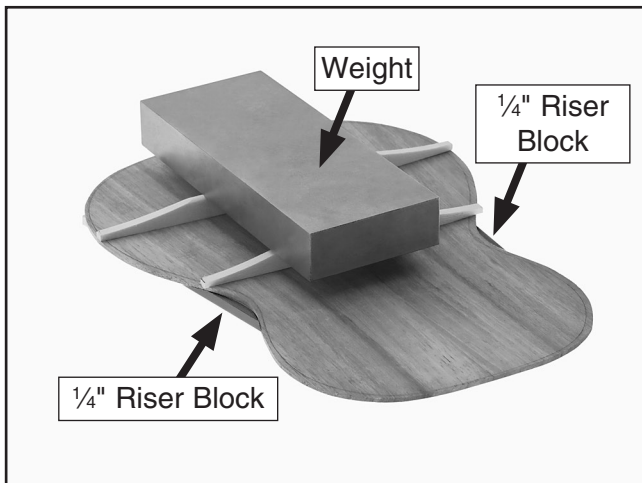

Figure 13. Weight being used to conform the back to the curve of the braces.
2. Place the edges of the back on 1/4" riser blocks. Use a weight to depress the back board enough to conform to the curve of the braces, as shown in **Figure 13**.